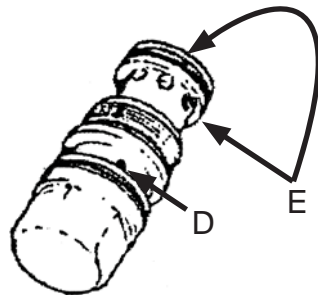

Figure 5-31 Cartridge Valve
2. Pressurize drain hole D at 120 PSI of (see Figure 5-31).